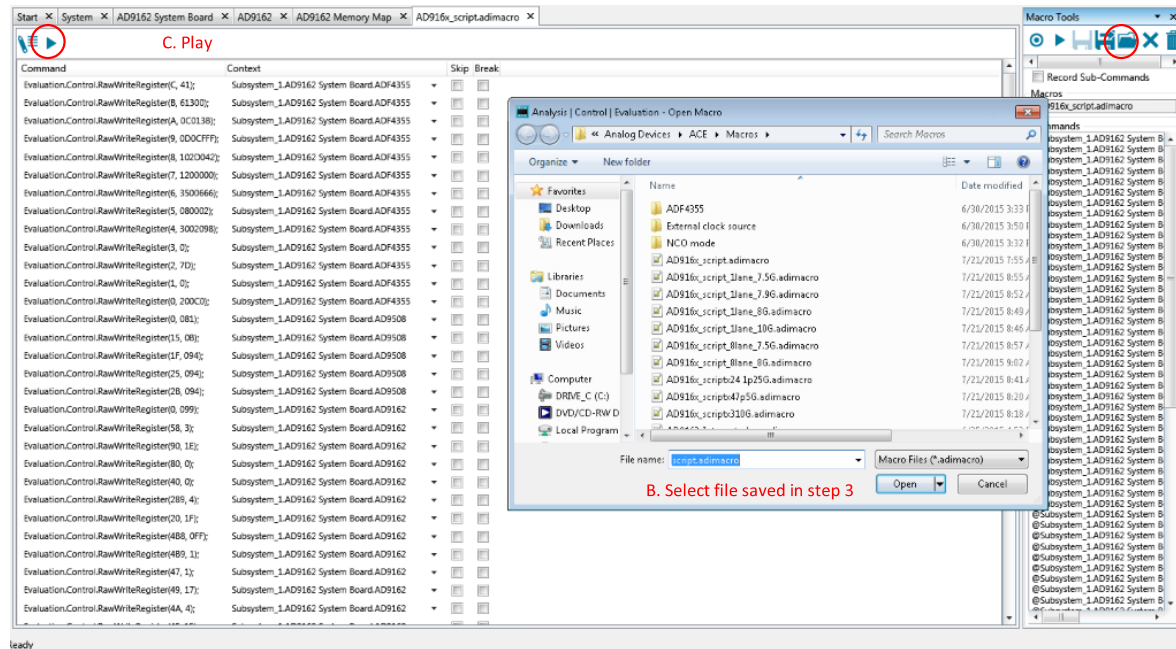

Figure 8. Run Macro Script
- Press the “Play” (right-pointing triangle) button, and all of the black register writes should turn green as they are successfully executed as shown in Figure 8.